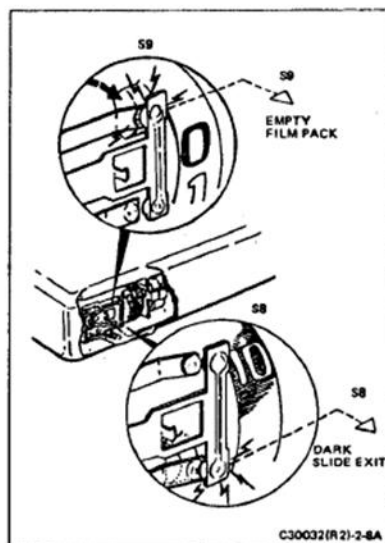

FIGURE 2-8A S8-S9 EXPOSURE COUNTER SWITCHES
h. Switch S8 (Figure 2-8A) is part of the exposure counter operated by the counter wheel. As S7 closes, power is applied, ejecting the dark slide. After dark slide ejection, the counter wheel turns, opening S8. S8 then remains open until the film pack is removed. When the pack is taken out, S8 closes.